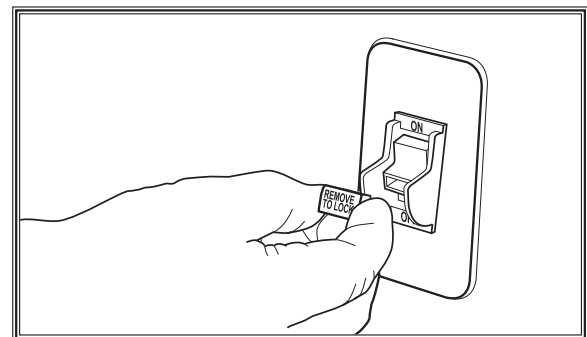

Figure 24. Removing switch key from toggle switch.
6. Remove switch disabling key, as shown in **Figure 24**.